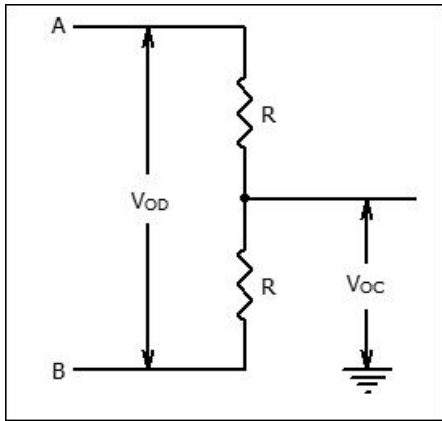

Figure 1 Driver DC Test Load
- (1) Test circuit is shown in Figure 1